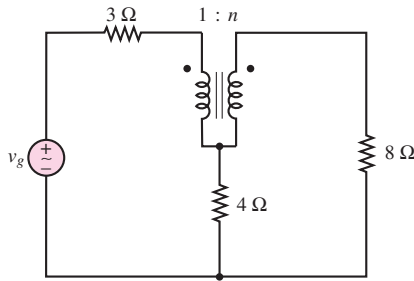

Figure P7.38
**7.38** Assume the 8- $\Omega$  resistor is the load in the circuit shown in Figure P7.38. Assume  $v_g = 110$  V rms and a variable turns ratio of  $1 : n$ . Find